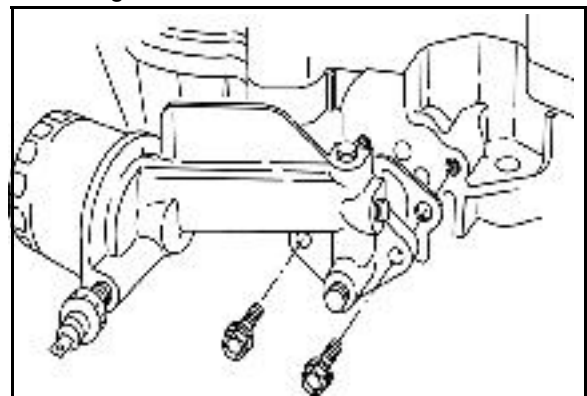

Fig. 50
3. Torque screws to listed value, as shown in Fig. 50.